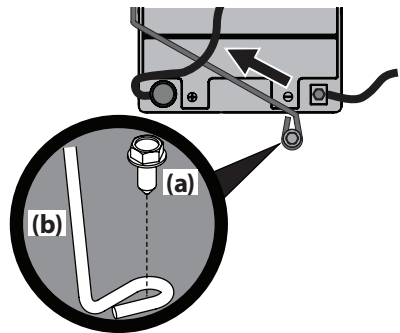

Figure 15
NOTE: Wiring harness should lay on top of battery hold down rod, otherwise damage to the wiring harness may result. See Figure 15 on page 11.
3. Remove the hex washer screw (a) securing the battery hold-down rod (b) to the frame. Then flip the battery hold-down rod (b) up to free the battery. See Figure 15.